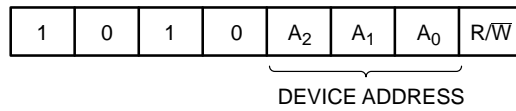

Figure 3. Slave Address Bits
The Master initiates data transfer by creating a START condition on the bus. The Master then broadcasts an 8-bit serial Slave address. The first 4 bits of the Slave address are set to 1010, for normal Read/Write operations (Figure 3). The next 3 bits, A2, A1 and A0, select one of 8 possible Slave devices. The last bit,  $R/\overline{W}$ , specifies whether a Read (1) or Write (0) operation is to be performed.